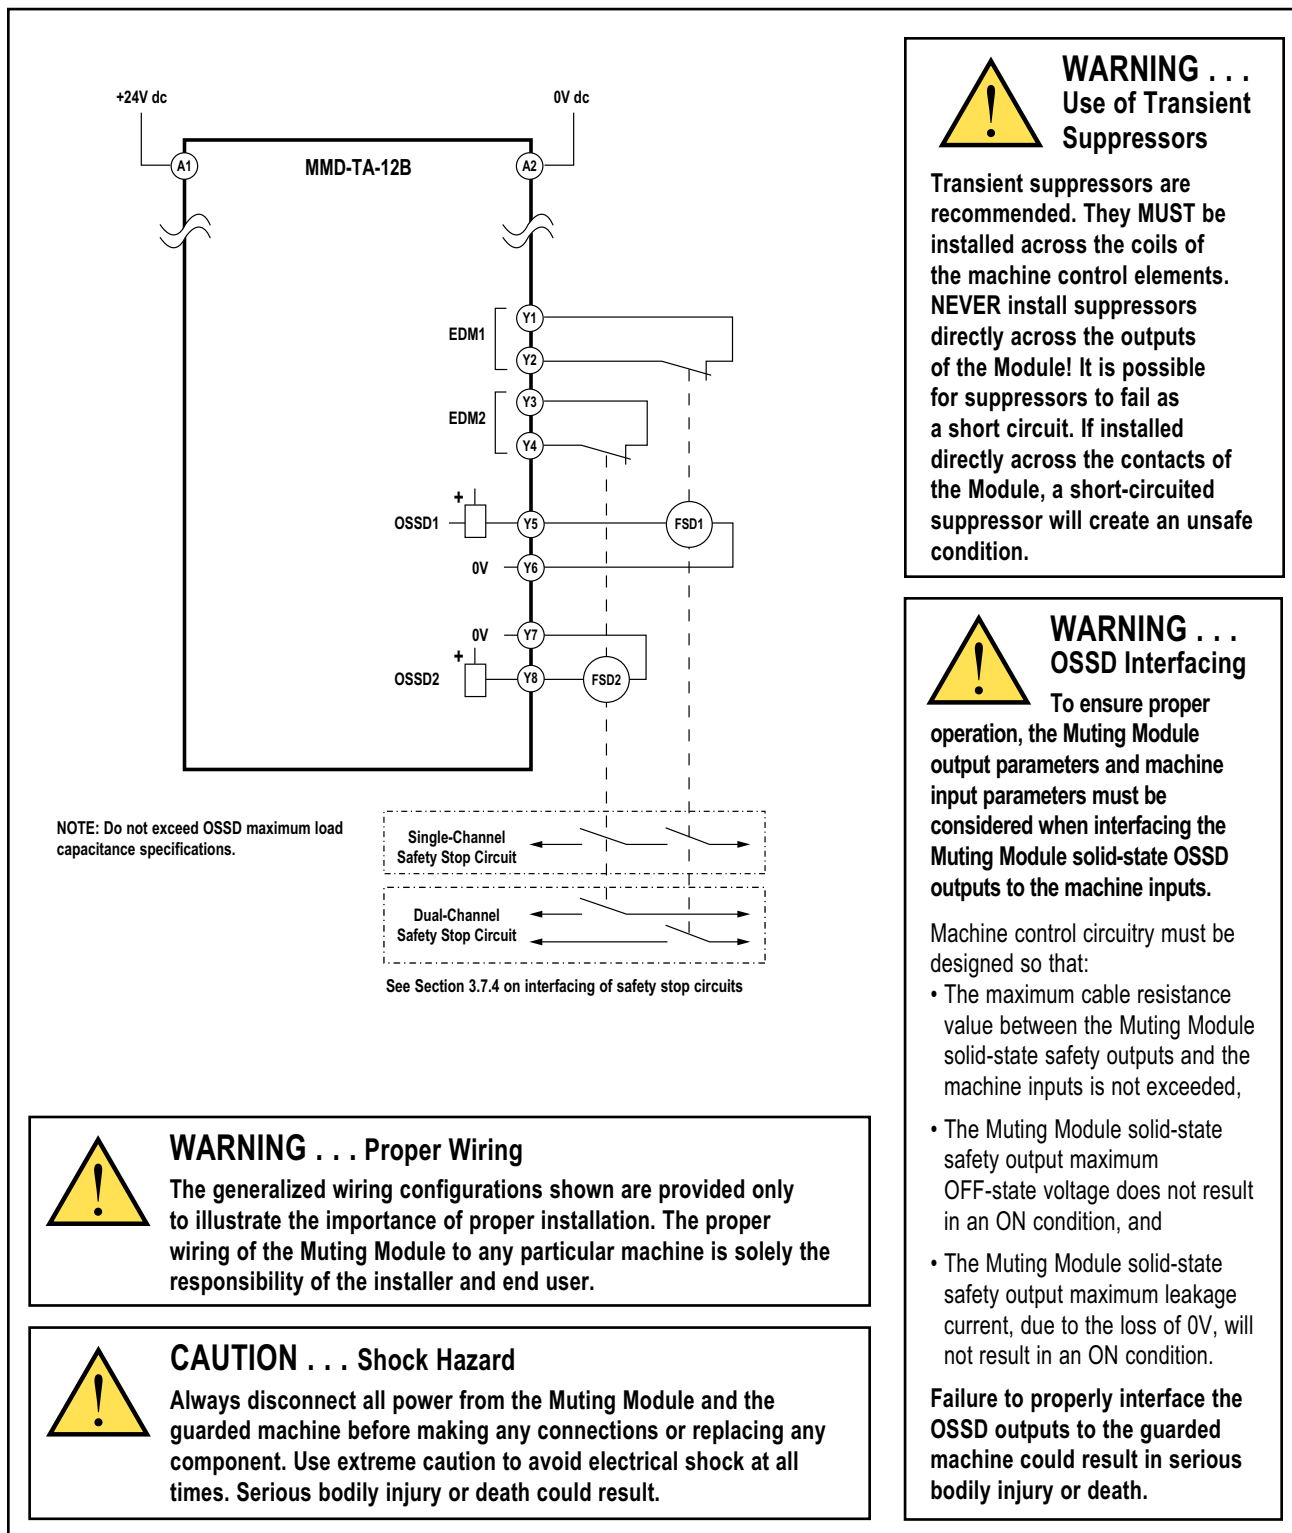

Figure 3-24. Generic machine interface hookup: module model MMD-TA-12B, FSD with Two-Channel EDM
The generalized wiring configuration shown in Figures 3-24, 3-25, 3-26, 3-27 and 3-28 are provided only to illustrate the importance of proper installation. The proper wiring of the Safety system to any particular machine is the sole responsibility of the installer and end user.
- Two-Channel Monitoring — SW4 Banks A and B = OFF or 2 CH (see Figures 3-24, 3-25, and 3-27).
After the initial checkout has been successfully completed, the EDM configuration that disabled the monitoring function must be properly reconfigured. The External Device Monitoring inputs then must be properly connected to the closed monitoring contacts of the MPCEs (see Section 1.10). Refer to the NOTICE Regarding MPCE Monitoring Hookup, below, and Figures 3-24, 3-25, 3-26, 3-27, and 3-28.
It is strongly recommended that one normally closed, forced-guided, monitoring contact of each MPCE or external device be wired in order to monitor the state of the MPCEs (as shown in Figures 3-24 to 3-28). If this is done, proper operation of the MPCEs will be verified. MPCE monitoring contacts must be used in order to maintain control reliability.
Final switching devices (FSDs) typically accomplish this when the OSSDs go to an OFF state. See Figure 3-24.